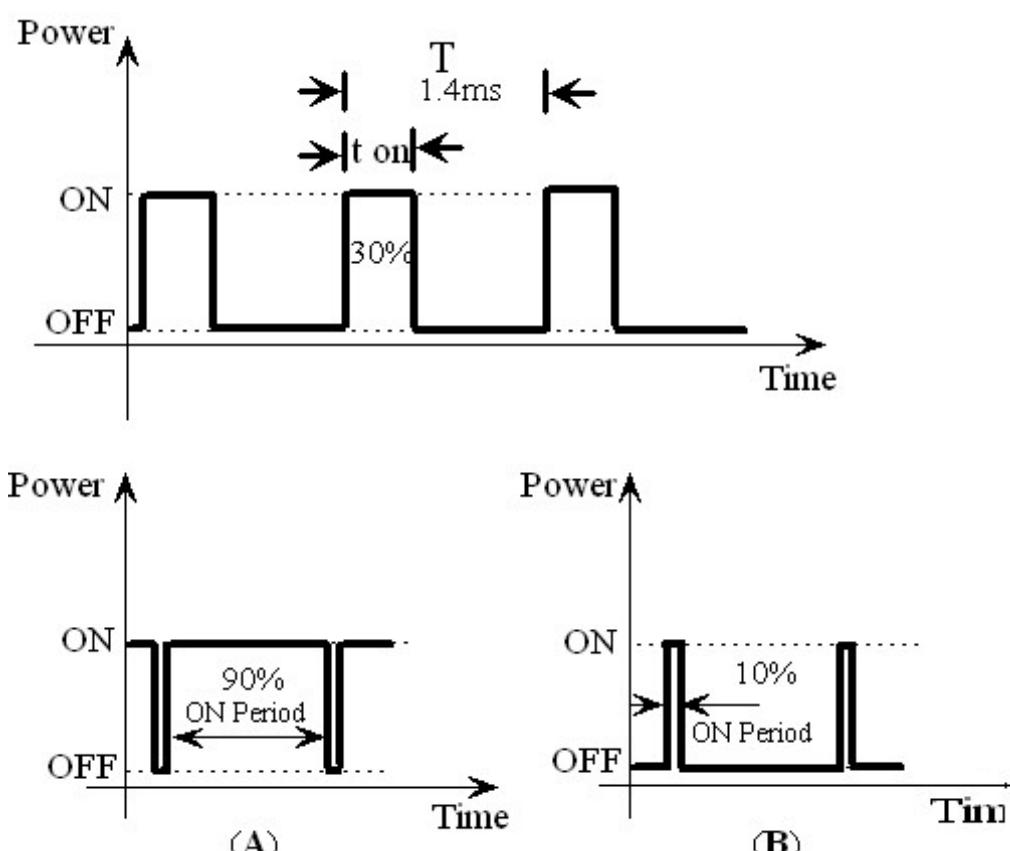

Figure 6.2: Pulse width modulation
- Figure 6.2 shows the PWM waveforms for motor velocity control. In case (A), ON time is 90 percent of time period. This wave has more average value. Hence more power is delivered to the motor. In case (B), the motor will run slower as the ON time is just 10 percent of time period.